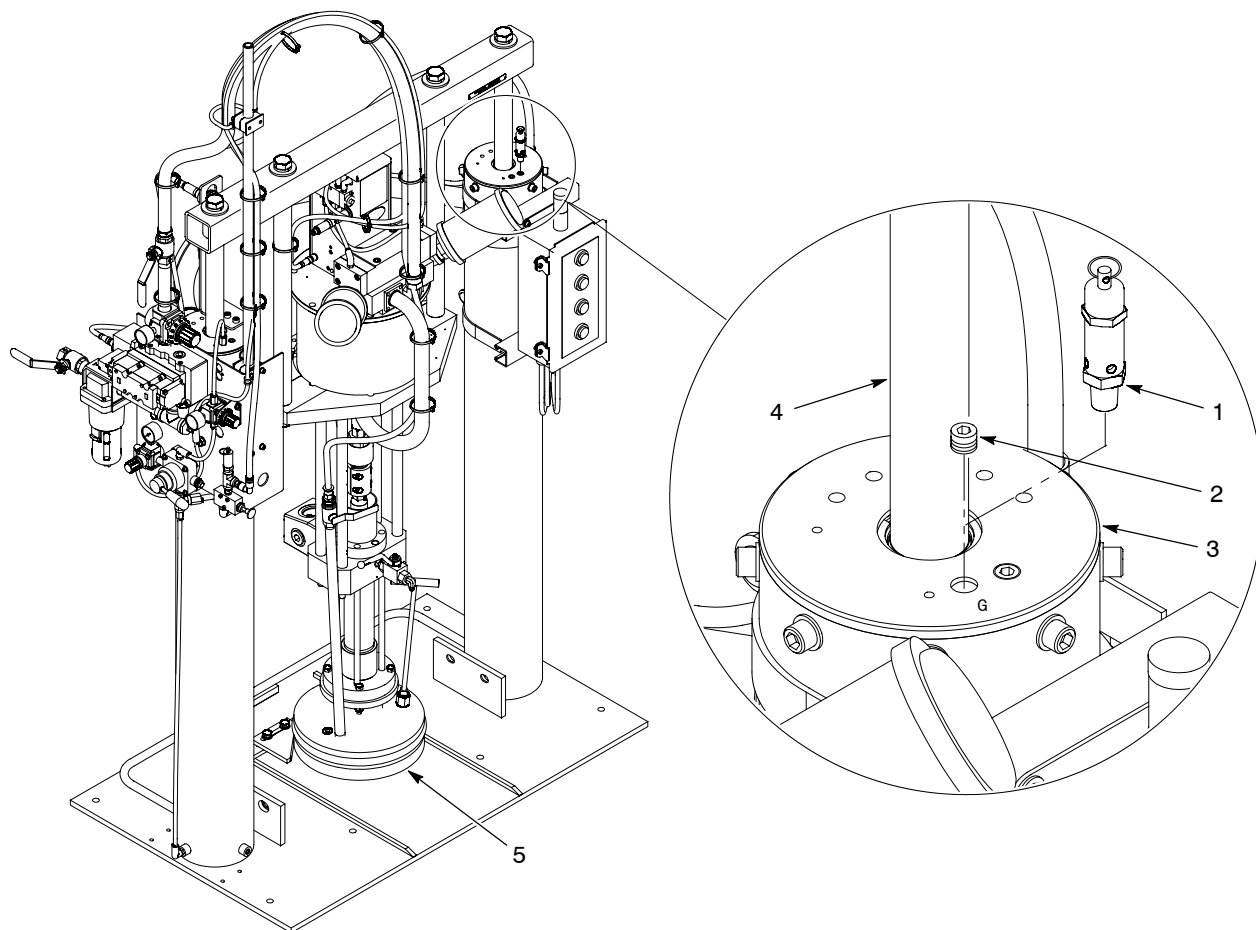

Figure 1 Typical Installation
See Figure 1. When using a 5-gallon follower (5) on a 55-gallon large G-port frame, a pop-off valve (1) must be installed to limit the amount of air pressure that can be applied to the ram cylinders (4) in the downward direction.